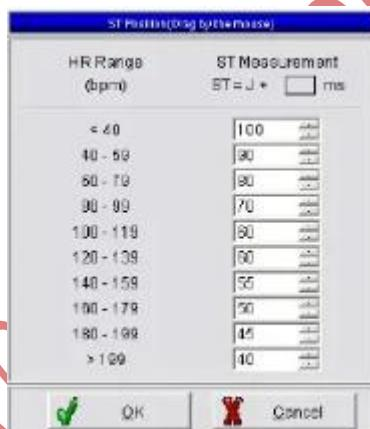

Fig. 5-46 Automatic ST analysis settings
1. Automatism: Automatically adjust ST measure point position. Namely according to different heart rate, choose different measure point, its position can be set in setup window for ST measure position (as Fig.5-46), which occurs after click the button on the right of the item.